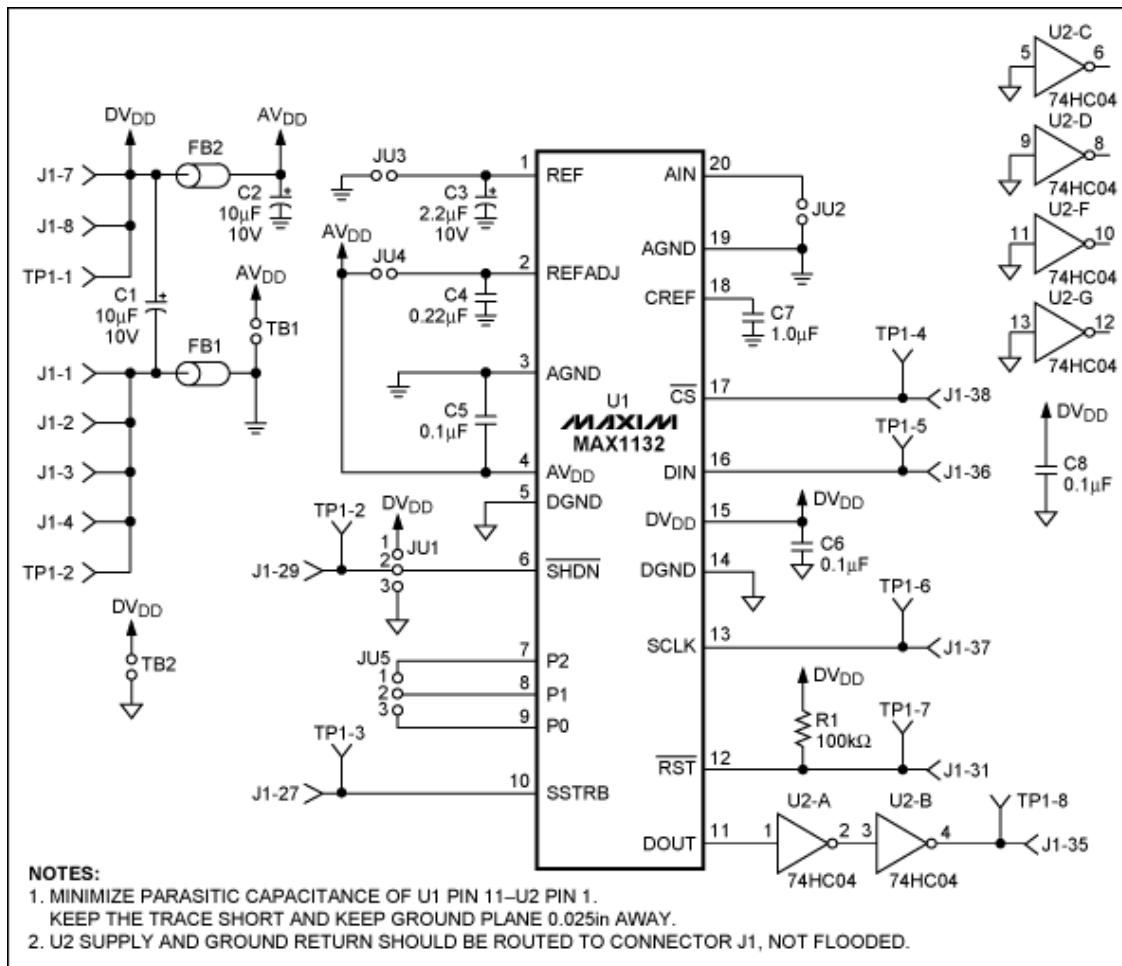
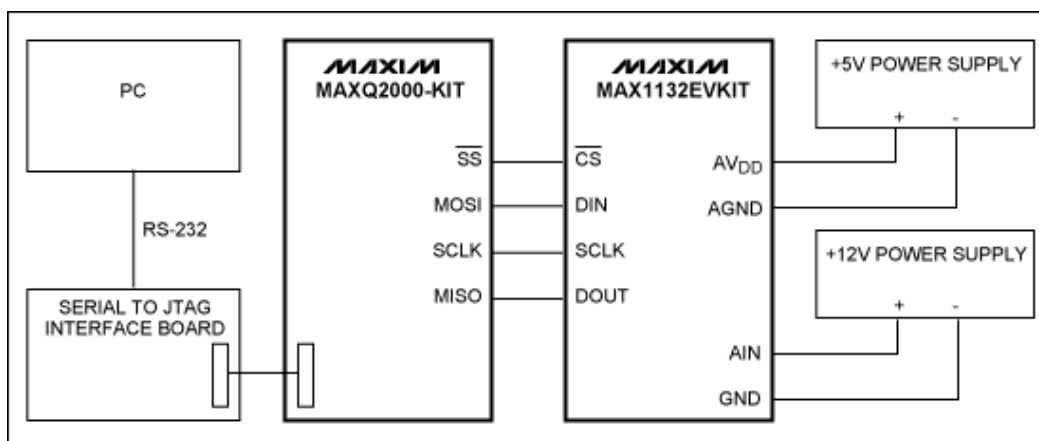

Figure 1. The schematic for the MAX1132 EV kit.
Figure 2. The system block diagram of the hardware used to evaluate the different SPI clock modes.
Figure 1 presents the MAX1132 EV kit schematic, and **Figure 2** illustrates the configuration of the system. To interface the MAX1132 EV kit with the MAXQ2000-KIT, connect SCLK, CS-bar, DOUT, and DIN from the MAX1132 EV kit to the MAXQ2000-KIT, as shown in Figure 2. In addition, a +5V supply is applied on the AV_{DD} and AGND terminals of the EV kit. JU1 of the EV kit must be installed on 1–2 (ON) position. Apply an analog signal up to +12V on JU2, and the rest of the jumpers are left open. SW3 of the MAXQ2000-KIT must be turned off for proper operation of the system.